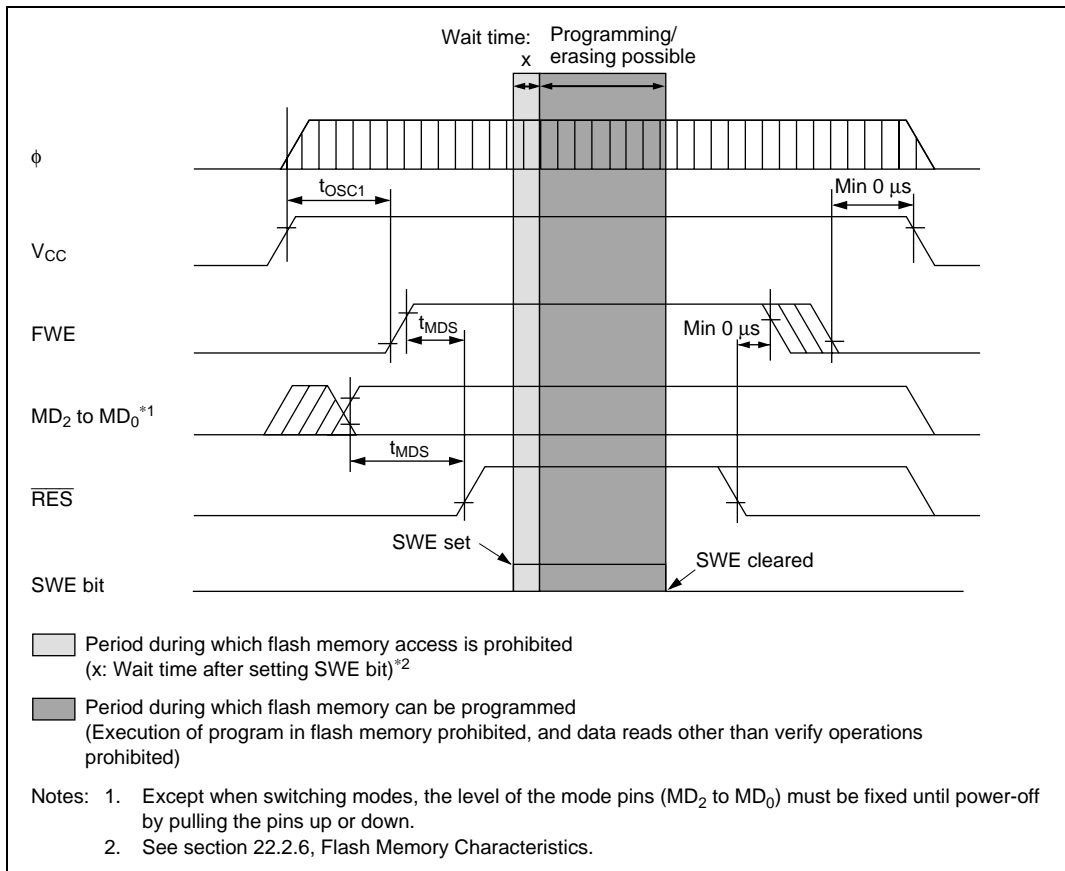

Figure 17.16 Power-On/Off Timing (Boot Mode)
2. Powering on and off (see figures 17.16 to 17.18)
3. FWE application/disconnection (see figures 17.16 to 17.18)